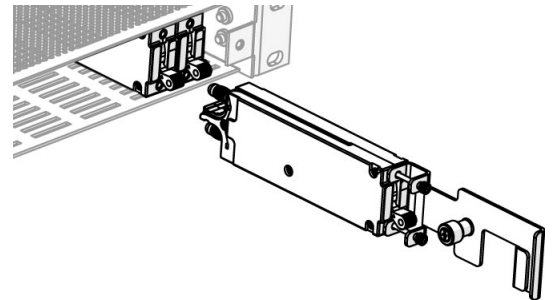

Figure 18. Breaker removal
- Step 4.** Pull the breaker straight out of the front of the panel (see Figure 18).